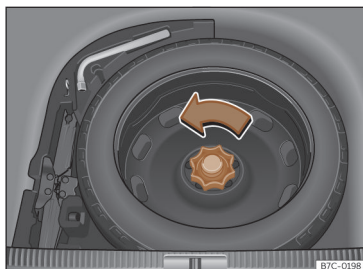

Fig. 240 In the luggage compartment: raised load floor.
- Turn the thumb wheel anticlockwise >>> Fig. 240.